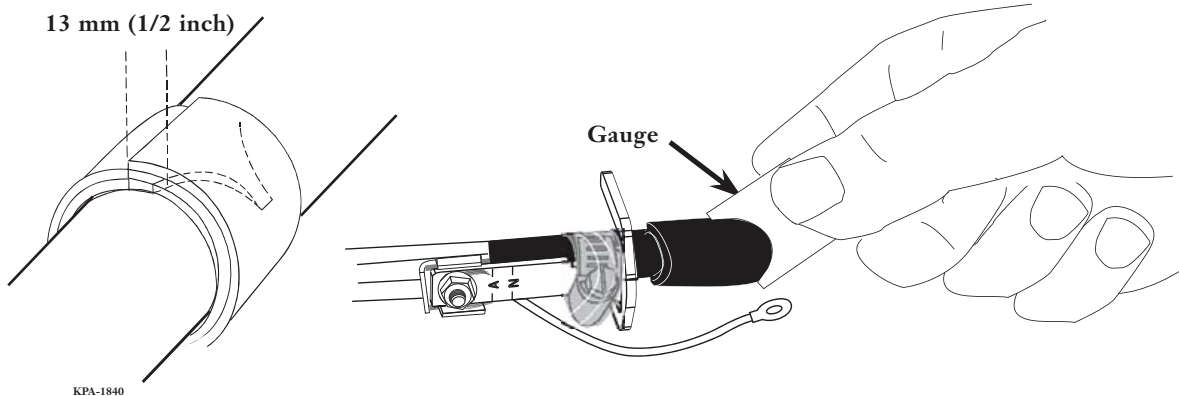

Figure 12
- Step 5:** Apply sealing tape to the cable sheath in the marked area. Wrap the tape until it conforms to the diameter on the supplied gauge (Figure 12). Always finish with a complete wrap that overlaps the starting point by 1/2 inch.